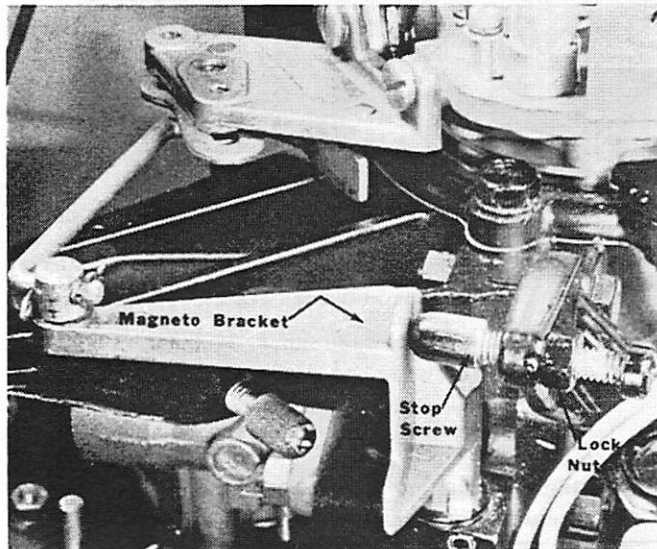
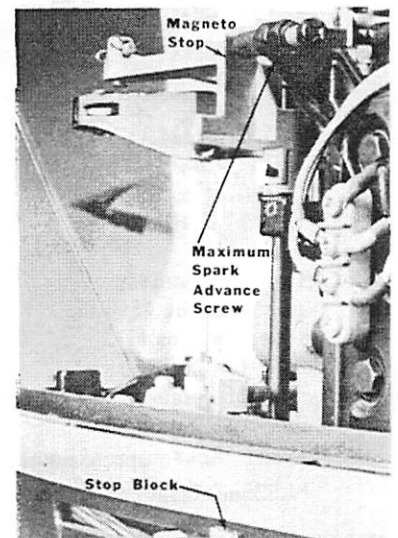

Figure 1. Stop Screw against Magneto Bracket
Figure 2. Stop Block Adjusted in Bottom Cowl
11. Hold magneto at this position, adjust stop screw to contact magneto bracket and tighten stop screw lock nut. (Figure 1)
18. Reinstall two (2) screws which were removed previously from flywheel ratchet and torque to 150 in. lbs. (26.625 kg/cm)
19. Adjust stopblock in bottom cowl to permit magneto stop to just touch maximum spark advance screw. This prevents overloading of magneto and throttle linkage. (Fig. 2)
to just touch maximum spark advance screw. This prevents overloading of magneto and throttle linkage. (Fig. 2)